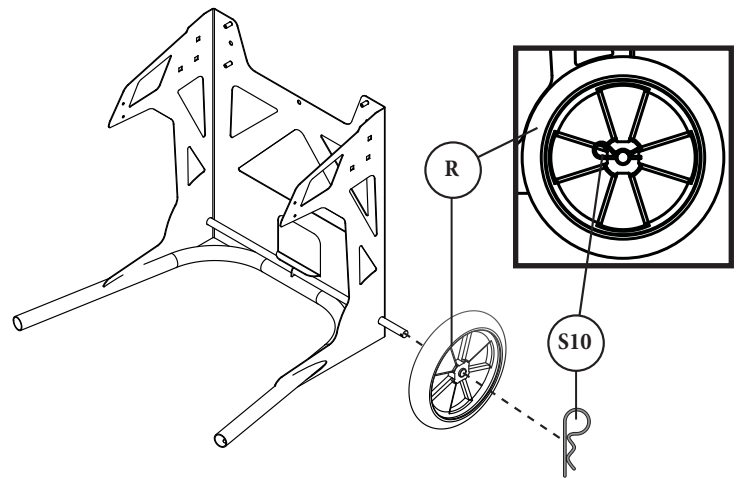

FIG. 3
Secure both Rubber Wheels (R) to either side of the axel on the bottom of the Cart Body (Q) using a Cotter Pin (S10). [FIG. 3]